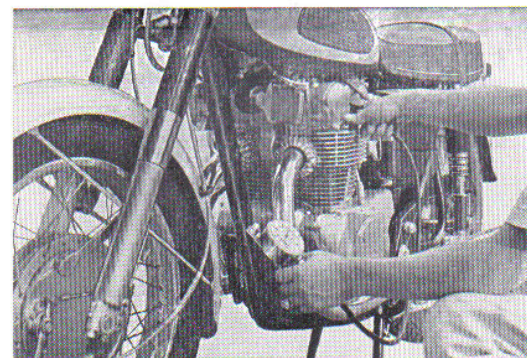

Fig. 6.1 Compression measurement
- b. Inserting compression gauge head into the plug opening, holding it firmly so that compression is not lost. (Fig. 6.1)